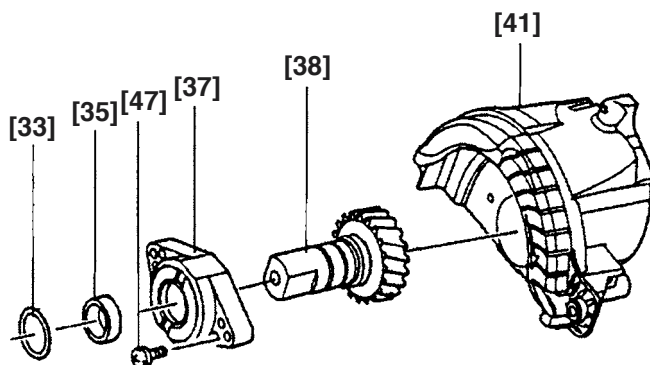
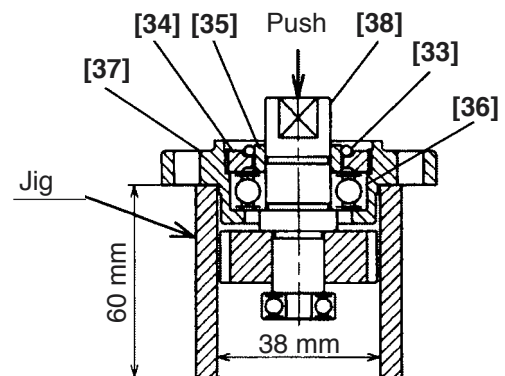

Fig. 4
Fig. 5
(4) Disassembly of the Bearing Holder [37] (Fig. 4 and Fig. 5)
- ① Loosen the two Seal Lock Screws (W/Sp. Washer) M5 x 20 [47]. Tap gently the end surface of the Gear Cover [41] with a wooden hammer and remove the Bearing Holder [37] in an assembled condition.
- ② Pull out the O-ring [33] attached to the tip of the Spindle [38] and push the end surface of the Spindle [38] with a hand press holding the side of the Bearing Holder [37]. Then the Distance Piece [35] and the Spindle [38] can be removed in an assembled condition.